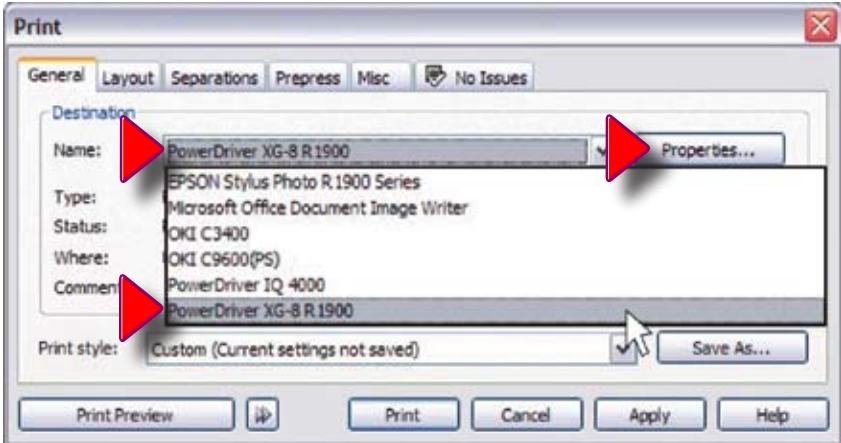
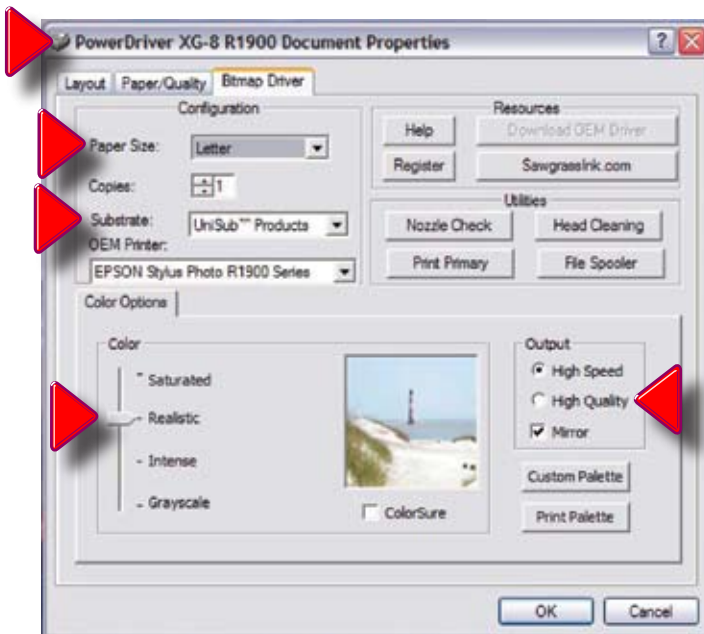

Figure 1
Figure 2
2. Select the **PowerDriver R1900 XG8 Printer**. Use the **Properties Button** (Figure 1) to access the “**PowerDriver XG-8 R1900 Document Properties**” **Screen** so that you can set the **Size, Substrate, Color, and Resolution** that your image requires. (Figure 2) Click “**OK**”.